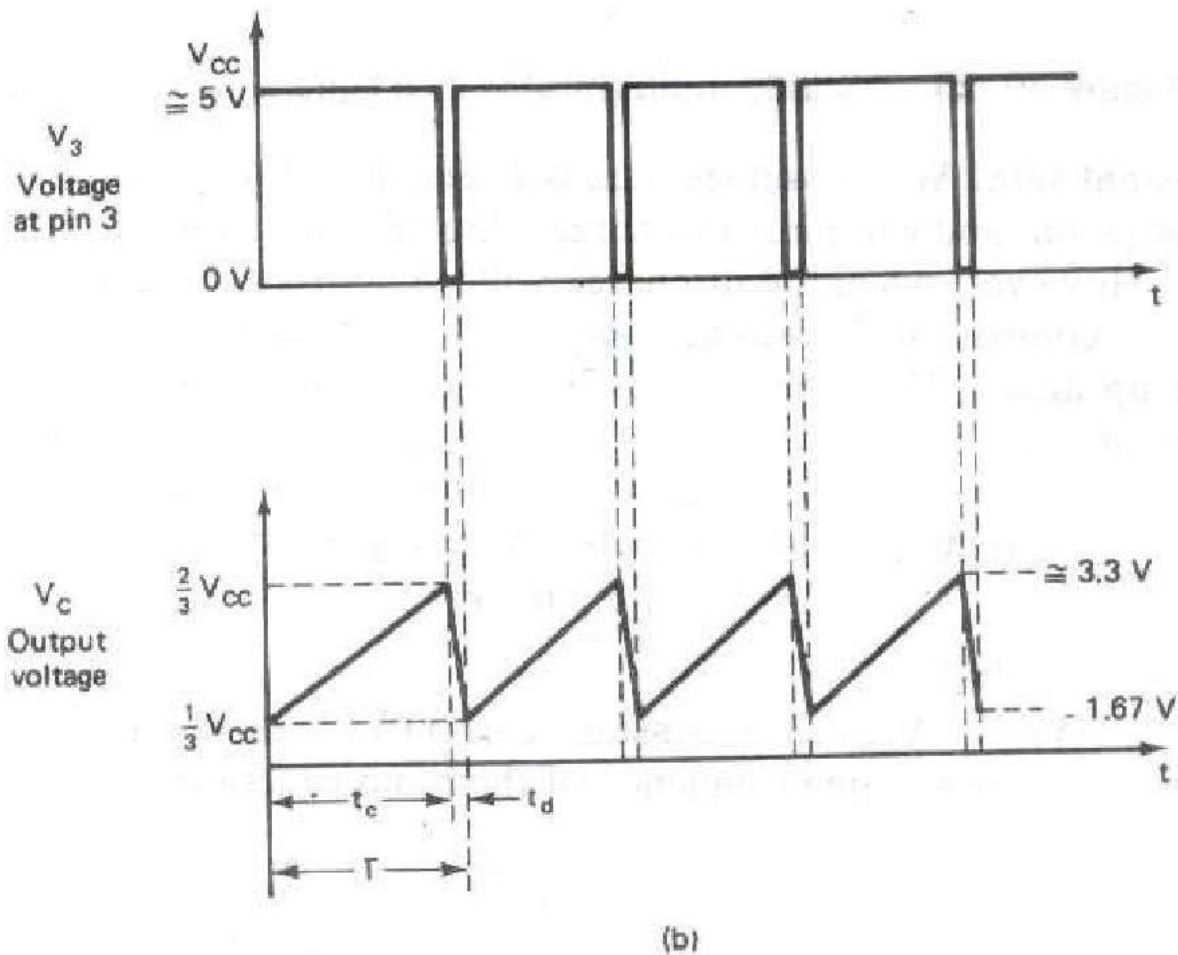

Fig 2.8(a) Free Running ramp generator (b) Output waveform.
**Free-running ramp generator:** The astable multivibrator can be used as a free-running ramp generator when resistors  $R_A$  and  $R_3$  are replaced by a current mirror. Figure 2.8(a) shows an astable multivibrator configured to perform this function. The current mirror starts charging capacitor  $C$  toward  $V_{cc}$  at a constant rate.